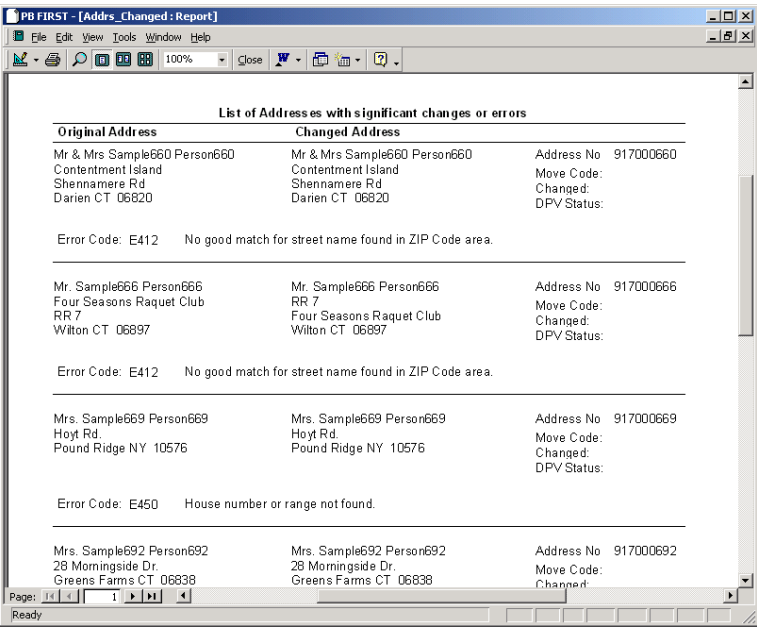

Figure 4-4
- 2. Click **Preview** to view the report on-screen; click **Print** to print the report. Figure 4-4 shows a sample report in